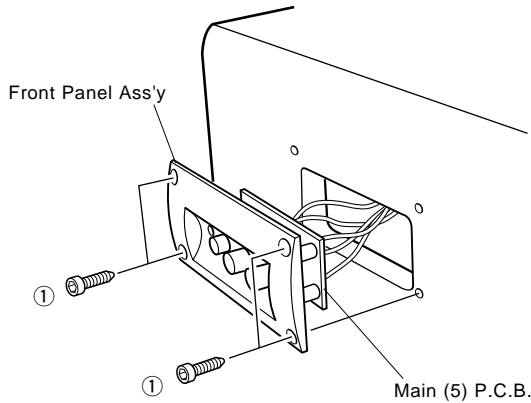

Fig. 1
Remove 4 screws (①) and then remove the Front Panel Ass'y in Fig. 1.